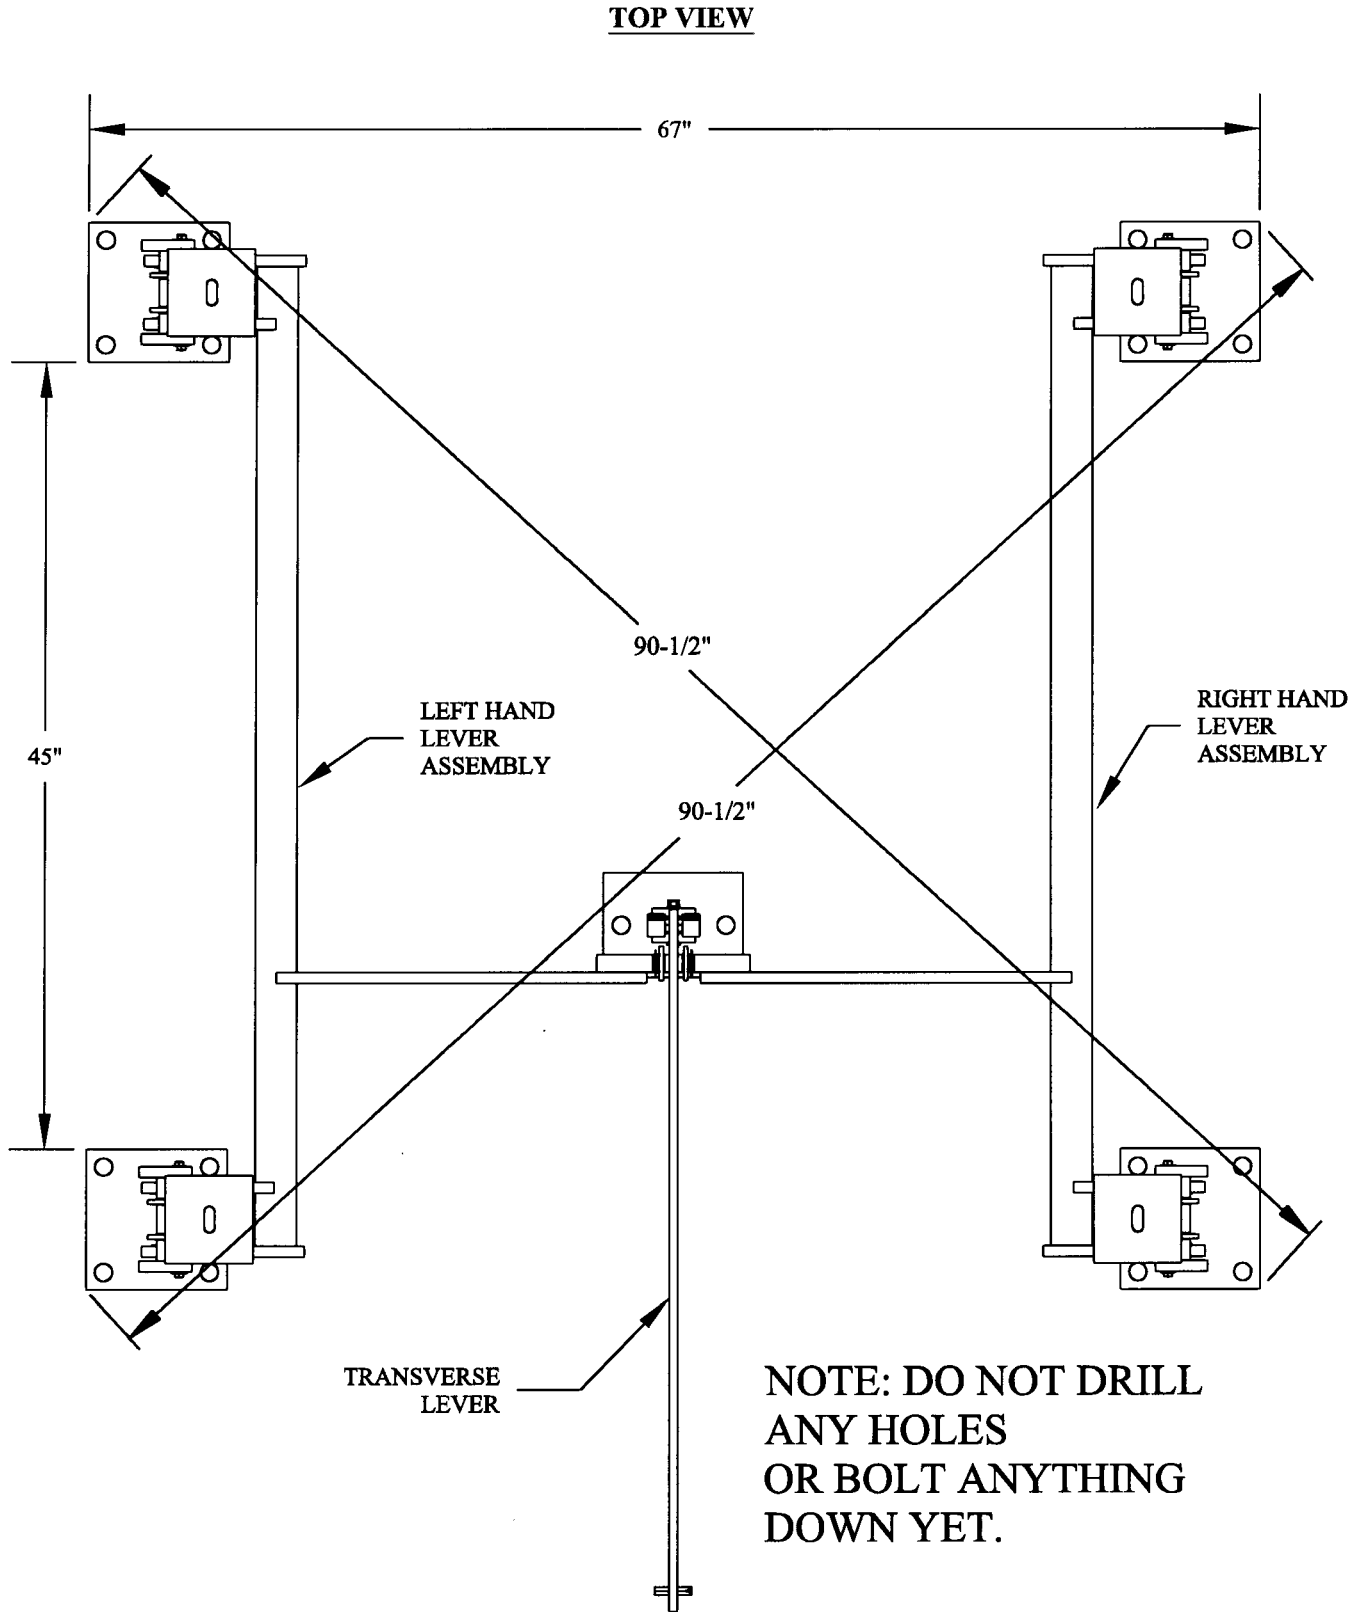

FIG 4
Step 4. Position the rest of the lever system, being mindful to use all the dimensions including both diagonal dimensions so that the scale will be square. See Fig. 4.